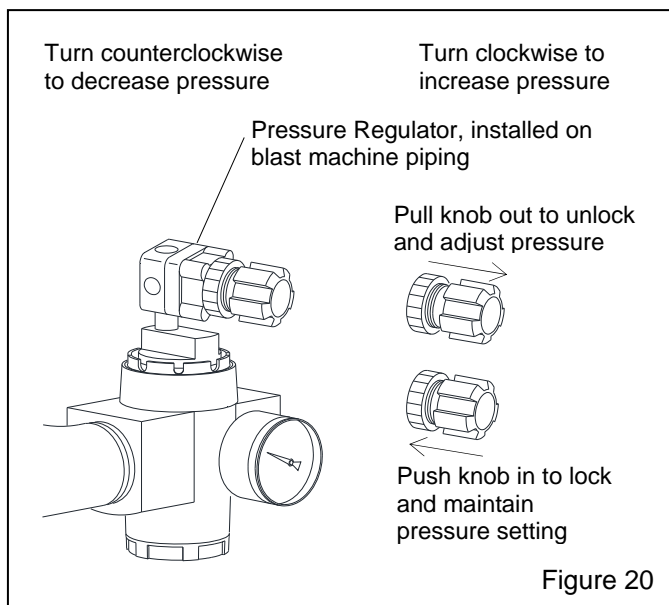

Figure 20
5.2 Blast Pressure Regulator, Figure 20